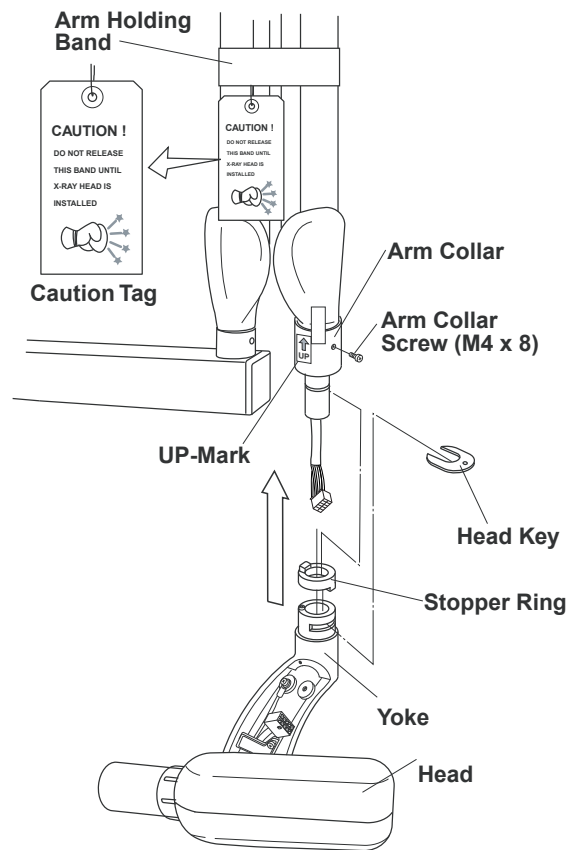

Fig.3-17 X-ray Head Installation
3. Making sure the stopper ring is placed on the yoke, insert the wiring from the balance arm assembly through the head shaft and into the yoke. (**Fig.3-17**)
4. Insert the shaft of the balance arm into the head yoke, and while holding the head in position, insert the head key securely into the retaining groove. (**Fig.3-17**)
5. Remove adhesive tape and slide the arm collar downward. Fix it in place with the arm collar screw. Remove the UP-mark from the arm collar. (**Fig.3-17**)